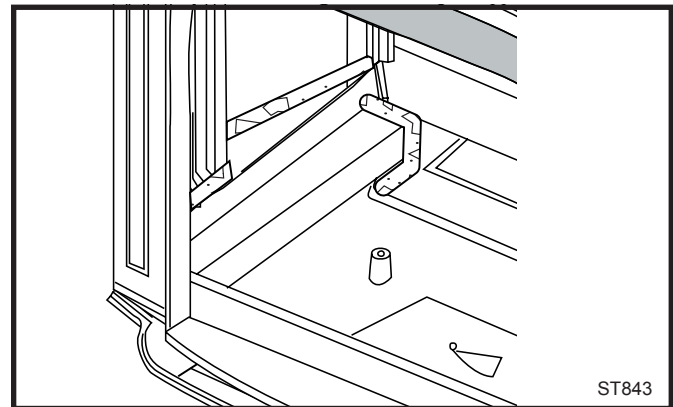

Fig. 11 Cement locations: left shoulder, inner side.
24. Cement the stove bottom, air manifold and left inner side at the locations indicated in Figure 11. Install the left shoulder plate into position.